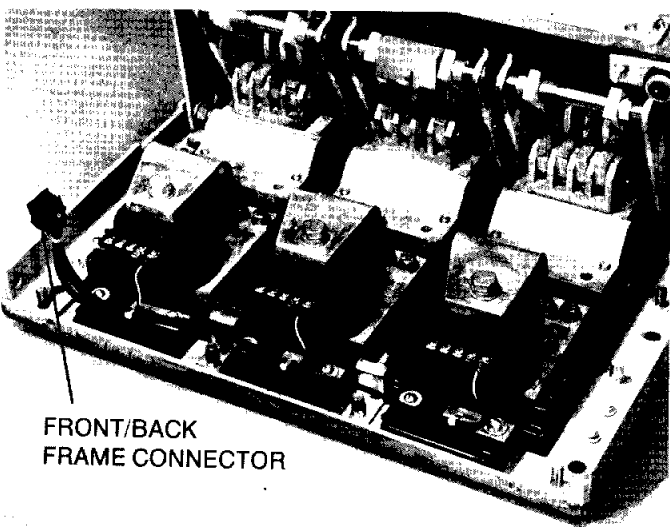
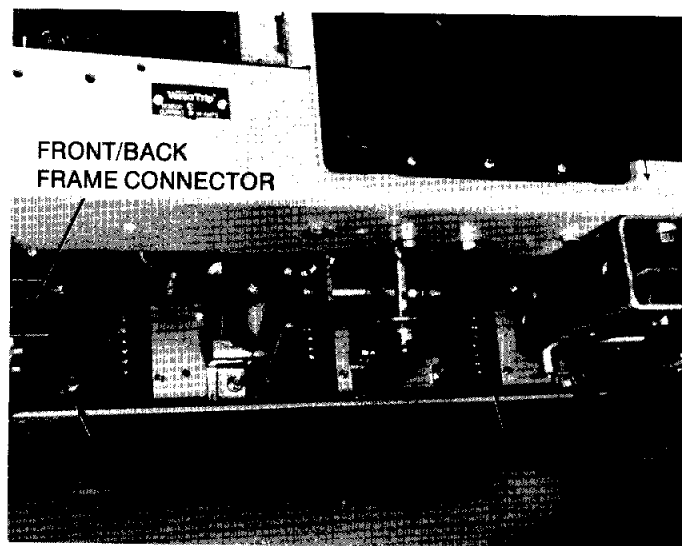

Fig. 3-4. MicroVersaTrip™ phase sensors and harness installed — AK/AKS-50
Fig. 3-7. Back frame harness installation — AK/AKR-75/100
3. Install MicroVersaTrip™ phase sensor. Secure sensor to lower adaptor with RTV or equivalent adhesive. Install upper adaptor connector. See Fig. 3-4.
2. Install as shown in Fig. 3-4.
Install the Backframe Harness as shown in Fig. 3-4 or Fig. 3-7. Wire ties used to form and secure the harness are provided.